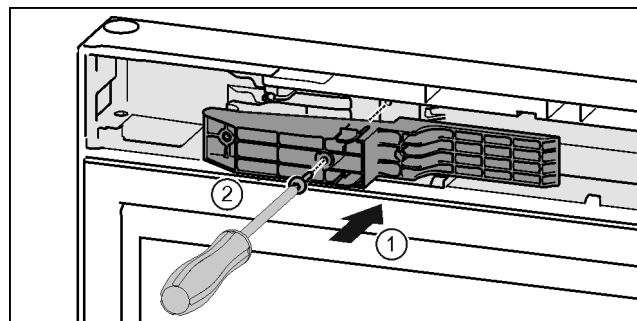

Fig. 46 \*
- ▶ Insert the adapter on the handle side in the recess. Fig. 46 (1)\*
- ▶ Tighten the screws using the T15 screwdriver. Fig. 46 (2)\*